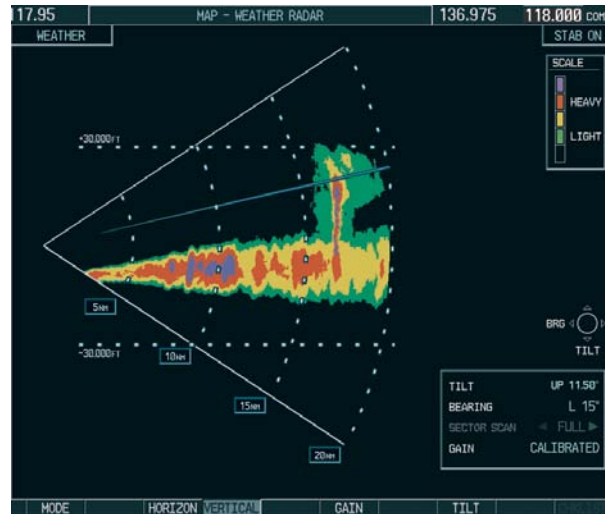

Figure 6-62 Vertical Scan Display
- 4) Select the **VERTICAL** Softkey. A vertical scan of the selected area is displayed (Figure 6-62).